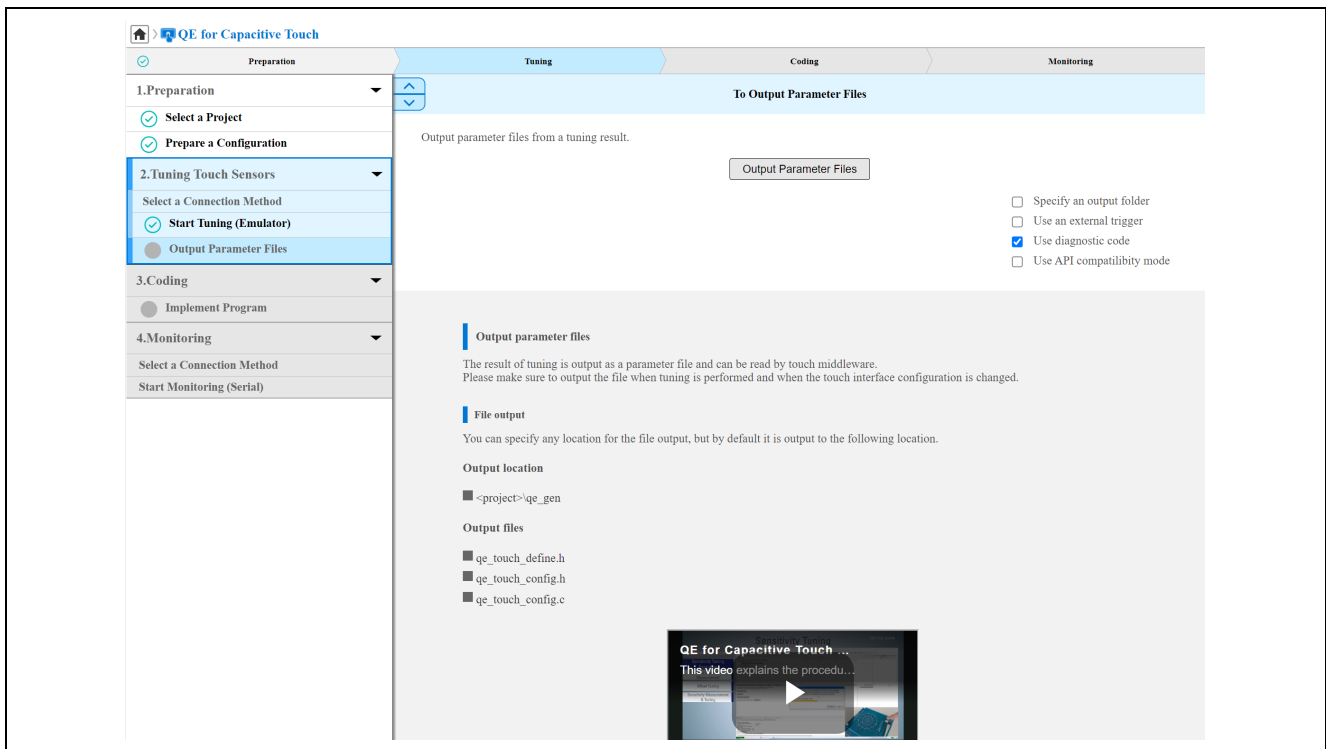

Figure 6-14 Output Diagnostic Code
17. As shown in Figure 6-14, check [Use diagnostic code] and click [Output Parameter Files].